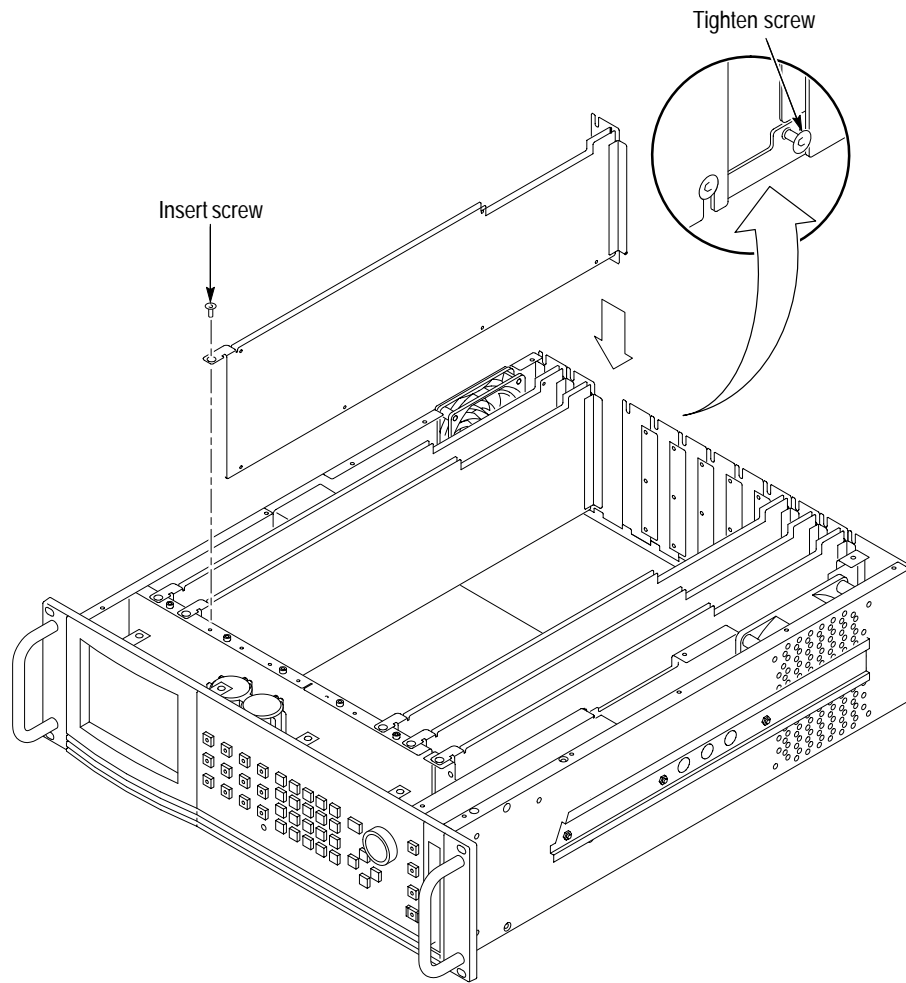
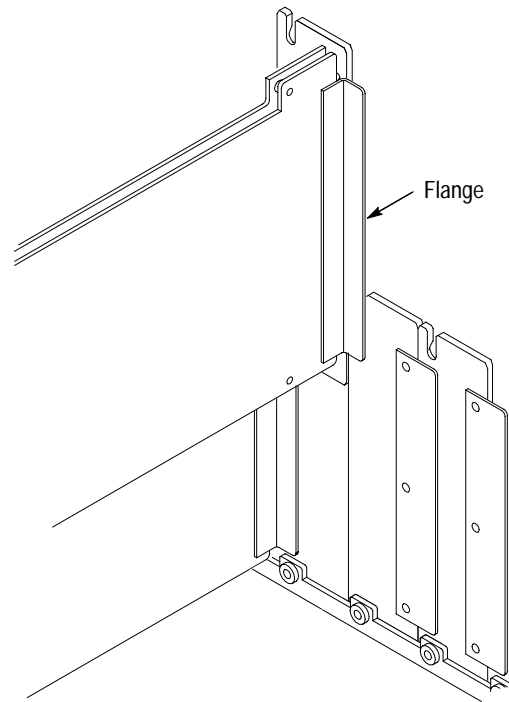

Figure C-3: Installing the module
Figure C-4: Module flange
6. Lower the module into the desired slot as shown in Figure C-3. When you lower the module, ensure correct alignment of the module flange as shown in Figure C-4.